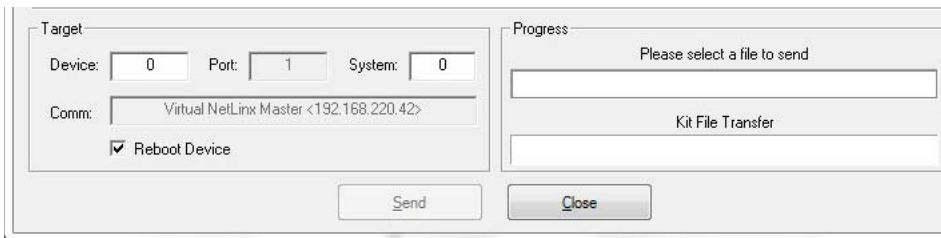

FIG. 29 Send to NetLinx Device dialog window
3. Select **Tools > Firmware Transfers > Send to NetLinx Device** from the main menu to open the *Send to NetLinx Device* dialog (FIG. 29). Verify that the panel’s System and Device number values match those values listed within the System folder in the **Online Tree** tab of the Workspace window.